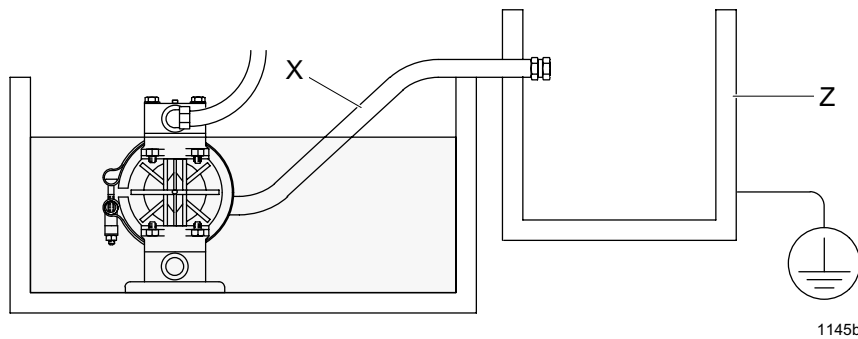

FIG. 8 : Venting Exhaust Air (submerged installation shown)
Diaphragm failure will cause the fluid being pumped to exhaust with the air. Place an appropriate container at the end of the air exhaust line to catch the fluid. See FIG. 8.
2. Install an electrically conductive air exhaust hose (X) and connect the muffler to the other end of the hose. The minimum size for the air exhaust hose is 3/8 in. (10 mm) ID. If a hose longer than 15 ft (4.57 m) is required, use a larger diameter hose. Avoid sharp bends or kinks in the hose.
3. Place a container (Z) at the end of the air exhaust line to catch fluid in case a diaphragm ruptures. If the fluid is flammable, ground the container. See FIG. 8.